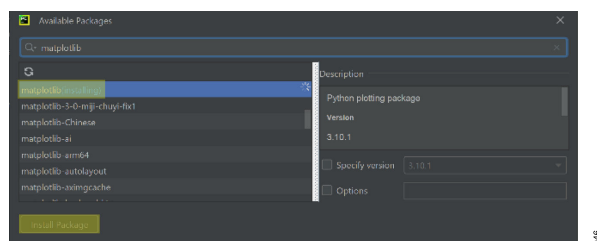

Figure 47. Activate Venv and Install PyADI-IIO
- Launch a Command Prompt window to activate venv and install the PyADI-IIO, as shown in Figure 47.